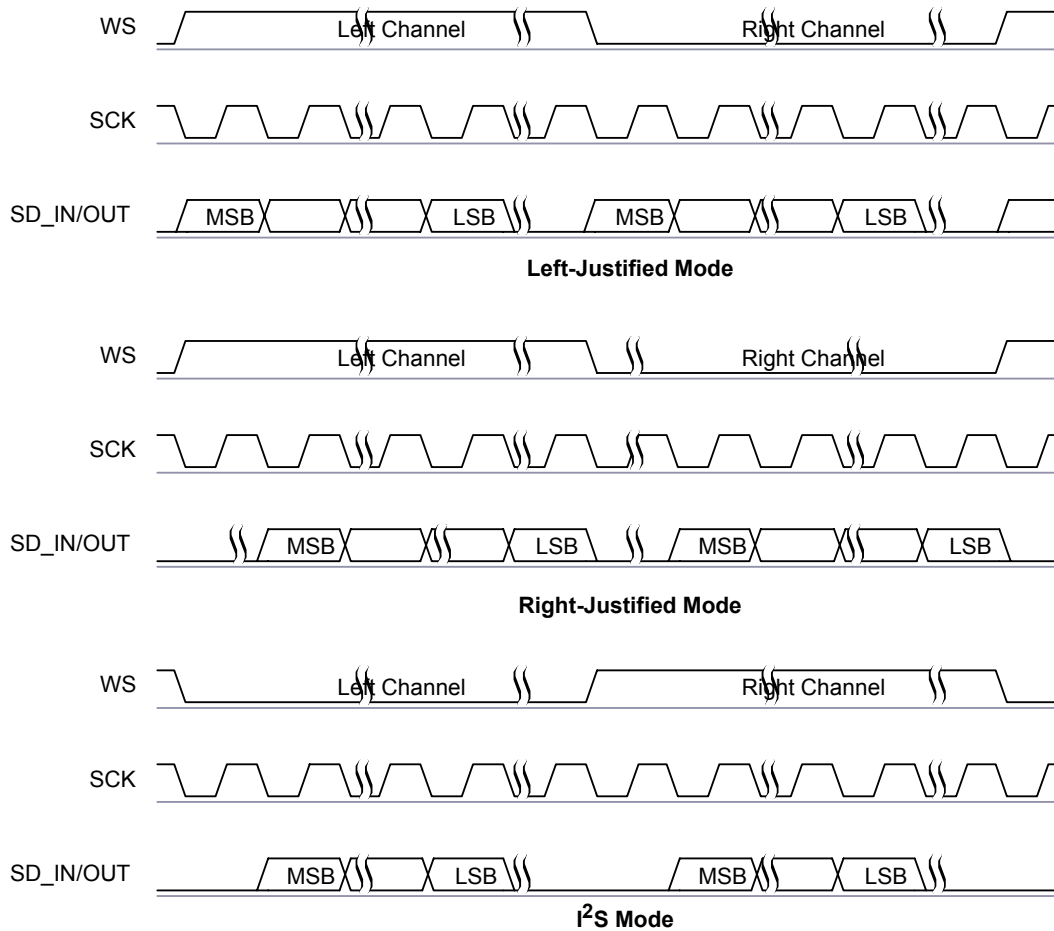

Figure 9.14: Digital Audio Interface Modes
The digital audio interface supports the industry standard formats for I²S, left-justified (LJ) or right-justified(RJ). The interface shares the same pins as the PCM interface as shown in section 3.2, which means each audio bus is mutually exclusive in its usage. Table 9.8 lists these alternative functions. Figure 9.14 shows the timing diagram.